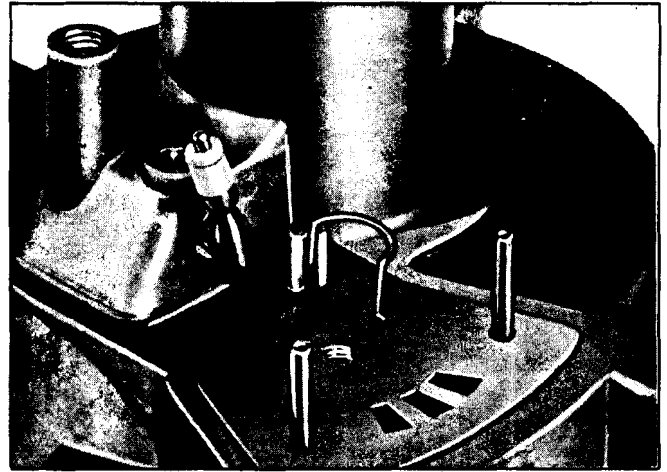

Fig. 4-19 Installing Valve Tension Spring in Boss
the long foot fits into a hole drilled at an angle in the boss (see Figs. 4-19 and 4-20).
3. Install longer foot of valve tension spring in boss on first stage housing, being careful not to distort spring (Fig. 4-19).